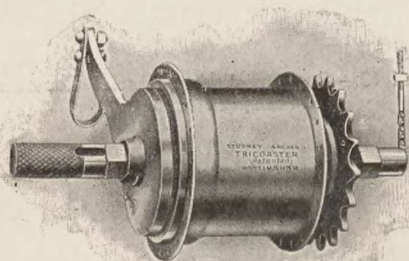

Fig. 66.—Sturmey-Archer Tri-Coaster
**"Three-Speed" Variable Gears.**—"Sturmey-Archer" three-speed gears are of two patterns—without and with an automatic brake and known respectively as the "three-speed hub" (Figs. 60 to 65), and as the "tri-coaster" (Figs. 66 to 71). The parts of these two devices are shown by Figs. 61 and 66, and it is not proposed